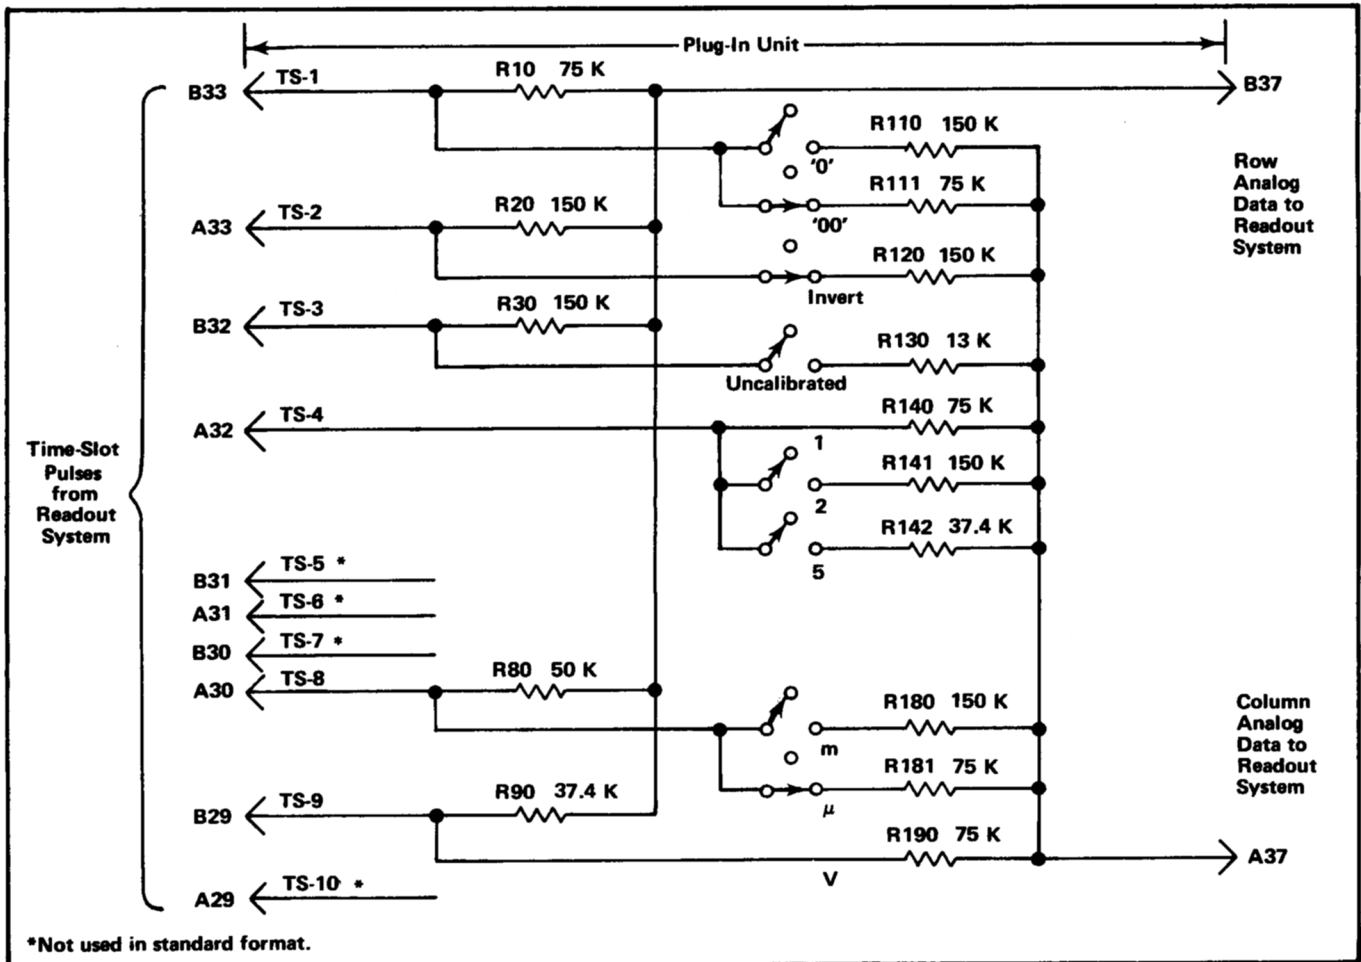
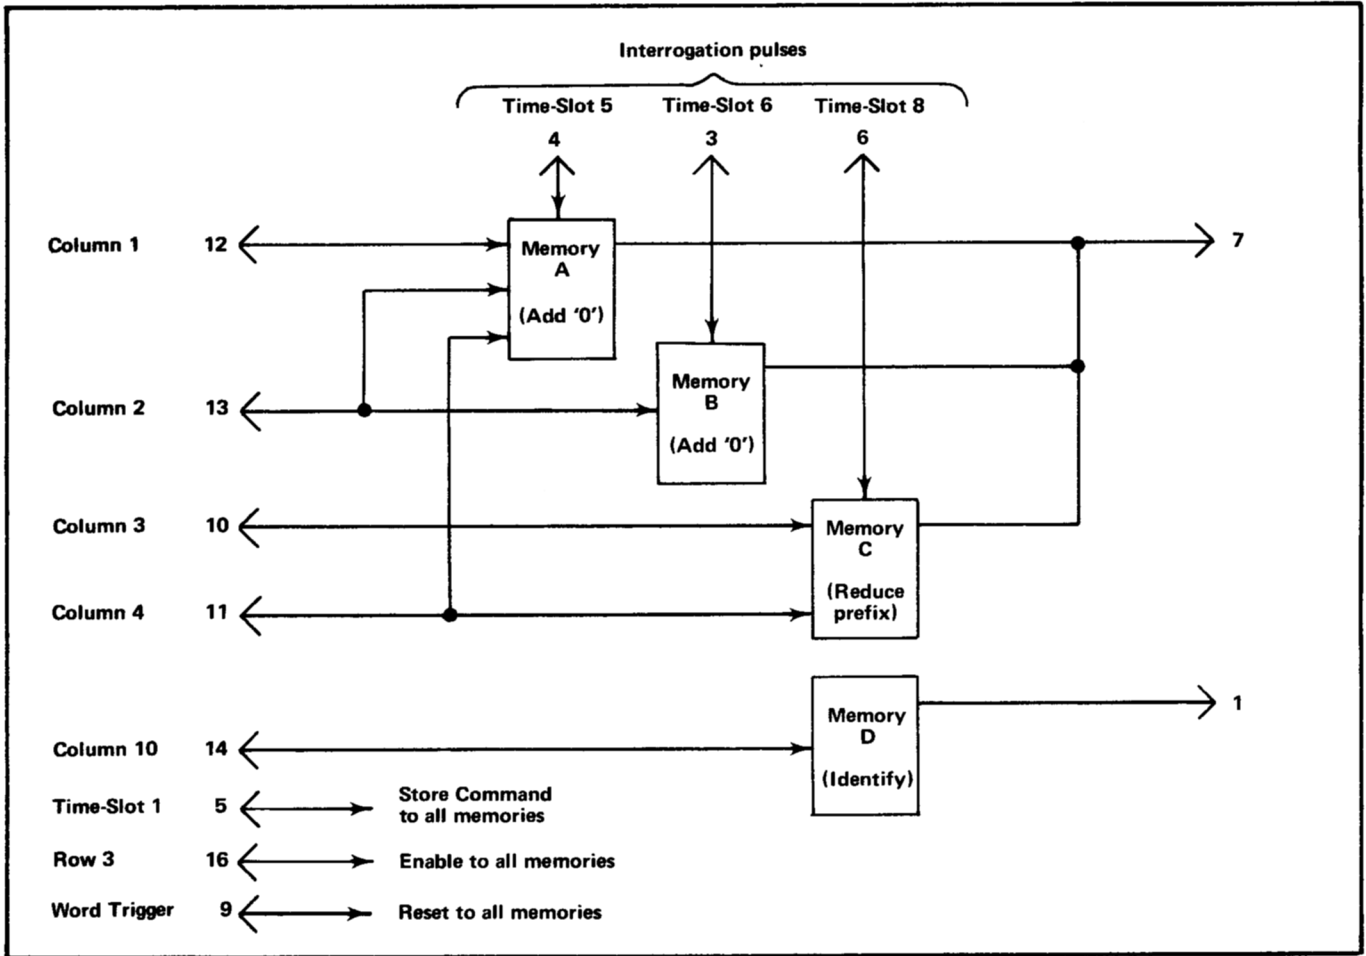
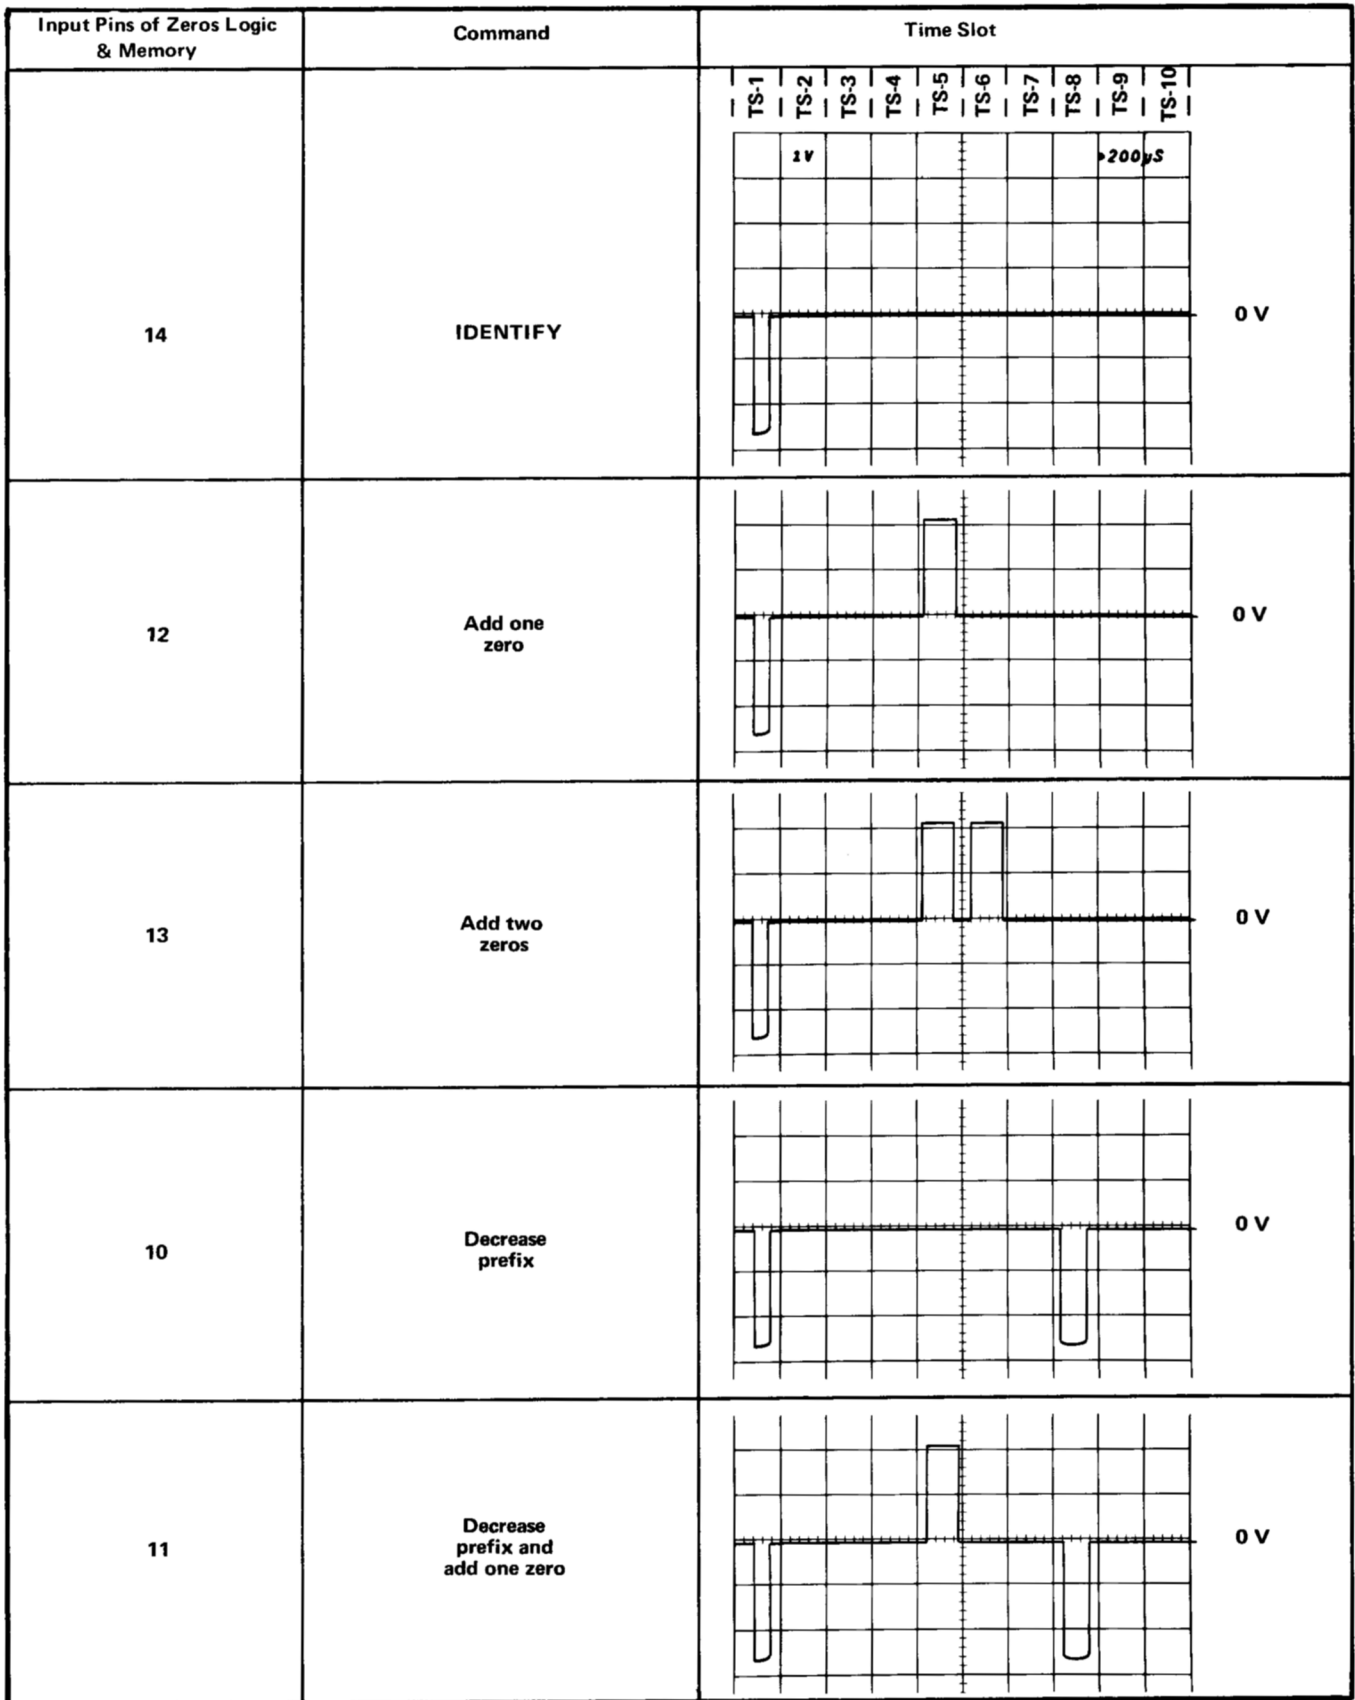

Fig. 4-32. Typical encoding scheme for voltage-sensing amplifier plug-in unit. Coding shown for deflection factor of 100 microvolts.
Fig. 4-34. Block representation of memory sequence in U2232.
Fig. 4-35. Typical output waveforms for Zeros Logic and Memory stage operation (at pin 7 of U2232).
Data is conveyed from the plug-in units to the Readout System in the form of an analog code having up to 11 current levels (from zero to one milliampere in 100 microampere steps). The characters which can be selected by the encoded data are shown on the Character Selection Matrix (see Fig. 4-25). Each character requires two currents to define it; these currents are identified as the column current and the row current which correspond to the column and row of the matrix. The column and row data is encoded by resistive programming in the plug-in units. Fig. 4-32 shows a typical encoding scheme for a voltage-sensing amplifier plug-in unit. Notice that the 10 time-slot (TS) pulses produced by the Time-Slot Counter stage are connected to the plug-in unit. However, time-slots 5, 6, 7, and 10 are not used by the plug-in unit to encode data when using the Standard Readout Format (see Table 4-2 for Standard Readout Format). The amplitude of the time-slot pulses is exactly  $-15$  volts as determined by the Timer stage. Therefore, the resultant output current from the plug-in units can be accurately controlled by the programming resistors in the plug-in units.
For example, in Fig. 4-32, resistors R10 through R90 control the row analog data which is connected back to the Readout System. These resistors are of fixed value and define the format in which the information will be presented by the Readout System. Fig. 4-33A shows an idealized output current waveform of row analog data which results from the 10 time-slot pulses. Each of the steps of current shown in these waveforms corresponds to 100 microamperes of current. The row numbers on the left-hand side of the waveform correspond to the rows in the Character Selection Matrix shown in Fig. 4-35. The row analog data is connected back to the Readout System via terminal B37 of the plug-in interface.
The Column analog data is defined by resistors R110 through R190. The program resistors are connected to the time-slot lines by switch closures to encode the desired data. The data as encoded by the circuit shown in Fig. 4-32 indicates a 100 microvolt sensitivity with the display inverted and calibrated vertical deflection factors. This results in the idealized output current waveforms shown in Fig. 4-33B at the column analog data output, terminal A37 of the plug-in interface. Resistor R111, connected between time-slot 1 and the column analog data output, encodes two units of current during time-slot 1. Referring to the
connectors of vertical plug-in units. A special coding ring around the input connector of the plug-in unit senses the attenuation ratio of the probe (with readout-coded probes only). The probe contains a resistor which results in additional column current. For example, if a 10X attenuator probe is connected to a plug-in with the coding for 100 microvolts as shown in Fig. 4-32, an additional unit of current is added to the column analog data during time-slot 1. Since two units of current were encoded by R111 (see Fig. 4-32), this additional current results in a total of three units of column analog current during this time-slot. Referring to the Character Selection Matrix, three units of column current along with the two units of row current encoded by R10 indicates that the prefix should be reduced. Since this instruction occurs in the same time-slot which previously indicated that two zeros should be added to the display and only one instruction can be encoded during a time-slot, the zeros do not appear in the display. The CRT readout will now be changed to 1 mV (readout) program produced by plug-in same as for previous example.
The Zeros Logic and Memory stage U2232 stores data encoded by the plug-in units to provide zeros-adding and prefix-shifting logic for the Readout System. The Strobe pulse at pin 15 goes positive when the data has stabilized and can be inspected. This activates the Zeros Logic and Memory stage so it can store the encoded data. A block representation of the memory sequence is shown in Fig. 4-34. Typical output waveforms for the five possible input conditions that can occur are shown in Fig. 4-35. When time-slot 1 occurs, a store command is given to all of the